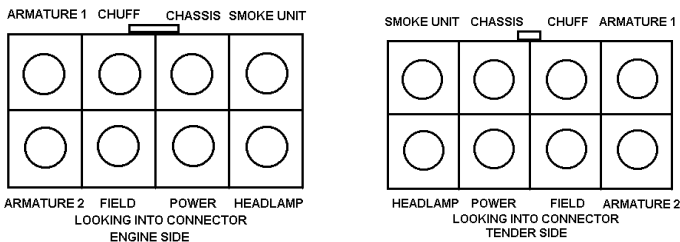

Figure 6 - Steam 8-pin Tether Connectors
Pay special attention to the wiring instructions and wiring diagrams when connecting the AC/DC DLX to the motor, since the connections may be different to what you are accustomed to. The only wiring that will be done inside the locomotive body will be to the engine side of the 8-pin connector assembly. It is a good idea to wire all of your engines in a consistent manner so that engines and tenders can be interchanged. Refer to the wiring diagrams of Figures 6 and 7 while performing the following procedure.
8. Using the supplied wire nuts, connect the BLU and YEL armature wires from the AC/DC DLX to the appropriate wires of the tether. Again, refer to figure 6
12. Connect the tether headlamp wire to the appropriate connection on the Terminal Block J1. Refer to figure 6 for the terminal block connections.
13. Connect the tether smoke unit wire to the appropriate connection on the Terminal Block J1. Again, refer to figure 6 for the terminal block connections.